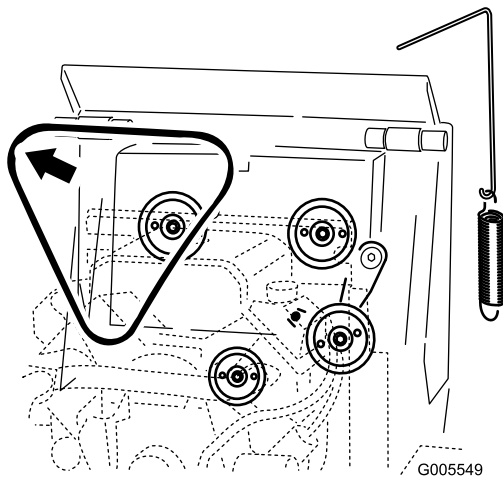

Figure 59
6. Remove the belt from the 3 pulleys (Figure 59).